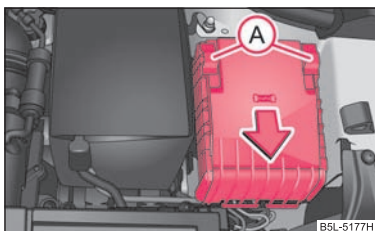

Fig. 185 Fuse cover in engine compartment
- Move the circlips **A** ⇒ fig. 185 as far as the stop, the symbol  appears behind the circlip and remove the cover.